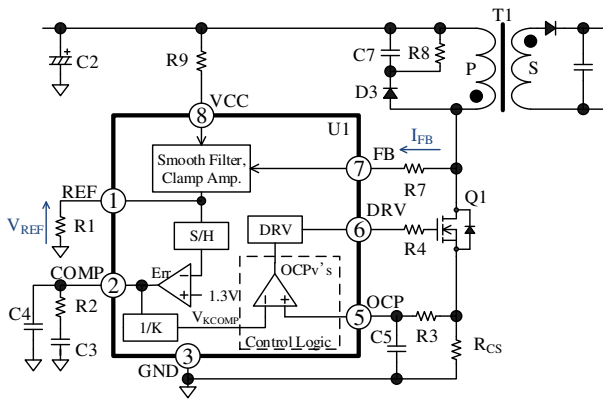
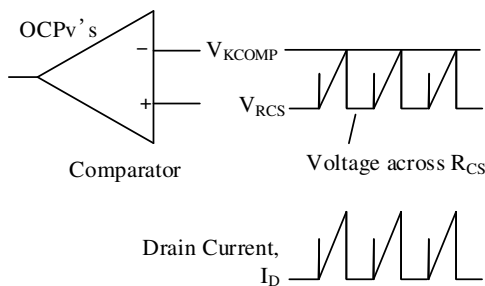

Figure 10-7. Constant Voltage Control Circuit
Figure 10-8. I_D and OCPv's Comparator Operation in Normal Operation
10.4. Constant Voltage (CV) Control
For the constant voltage (CV) control of the output voltage, the IC uses a peak current mode control that provides high speed transient response and stable operation. The IC compares V_{RCS} with the internal reference voltage, V_{KCOMP} , by the internal comparator (OCPV's), and controls so that the peak value of V_{RCS} gets close to V_{KCOMP} . Where, V_{RCS} is the voltage across of the current detection resistor, R_{CS} . The REF pin voltage is generated from the FB pin voltage. V_{KCOMP} is a value obtained by inverting the sampled REF pin voltage by the error amplifier (see Figure 10-7 and Figure 10-8). The following equation shows the relation between the REF pin voltage and the FB pin current: